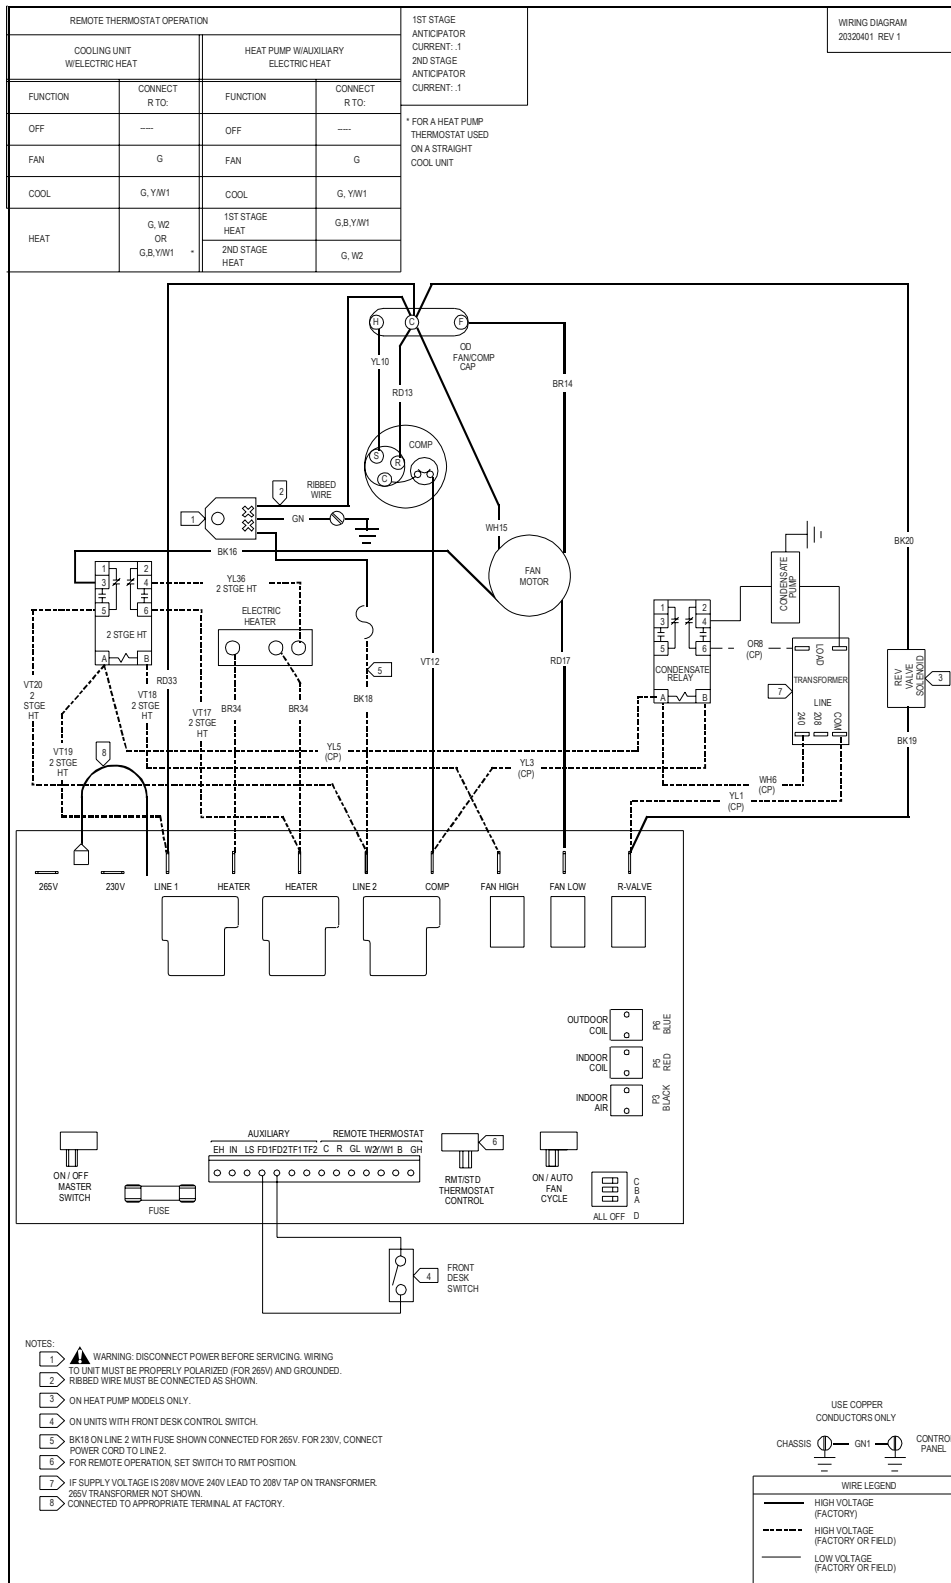

Figure 14
24. Units that have a 2 stage heater already installed in the chassis should refer to Figure 14 for proper wiring of the condensate pump kit.